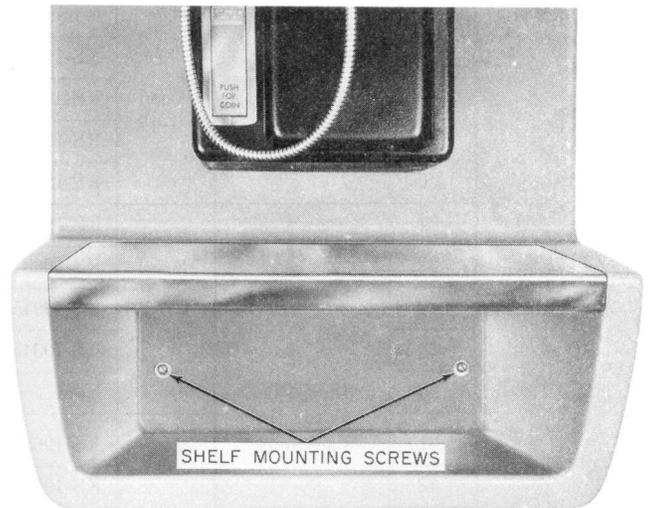

Fig. 6—Directory Compartment of KS-19945 Coin Telephone Shelf
2.07 The directory compartment, which is a part of the shelf, will accept directories up to 4 inches thick (Fig. 6).
3.04 The rear of the directory compartment has two mounting holes (Fig. 6). If drilling is required, mark location for these two holes and remove shelf. If drilling is not required, fasten shelf to wall with appropriate screws per Table B.
3.10 The rear of the directory compartment has two mounting holes (Fig. 6) and there are four 1/4-inch square holes at top of the shelf (Fig. 4). If drilling is required, mark location for the two holes in directory compartment and the bottom two 1/4-inch square holes in top edge of shelf and remove shelf. If drilling is not required, fasten shelf to wall with appropriate screws per Table D.